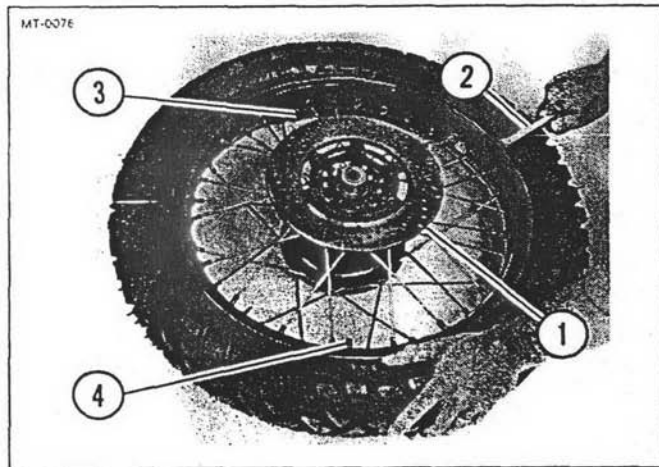

Figure 5-51. Breaking Tire Bead
6. See Figure 5-51. Starting on side of wheel to which brake disc (1) is mounted, use two tire irons (2) from vehicle tool kit to break tire bead away from wheel rim. Start at bead lock (3) and work around wheel rim toward valve stem (4). Stand on the tire sidewall or push it with your hands as required to separate it from the wheel.